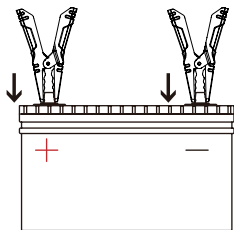

Figure 2.2.1
2. Connect the clamps to the corresponding battery terminals, that is, the red clamp to the positive (+) and the black clamp to the negative (-). Refer to Figure 2.2.1